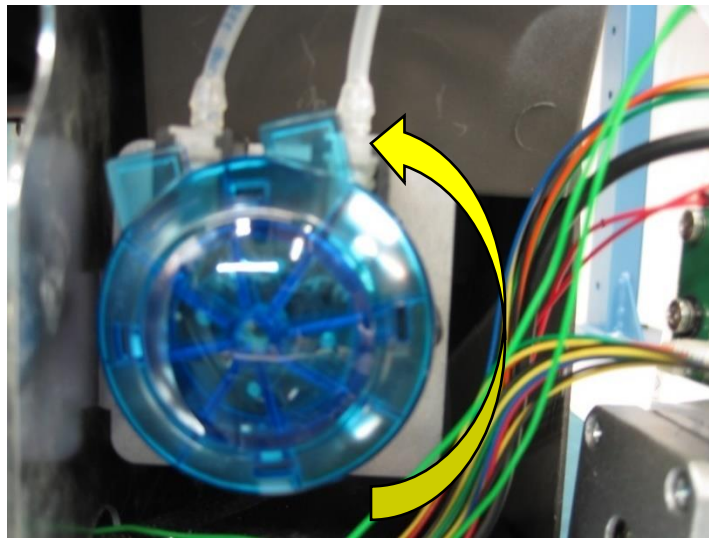

Figure 11
5. Remove the blue cover from the wash pump by turning slightly counterclockwise and gently pulling it towards you. Figure 11